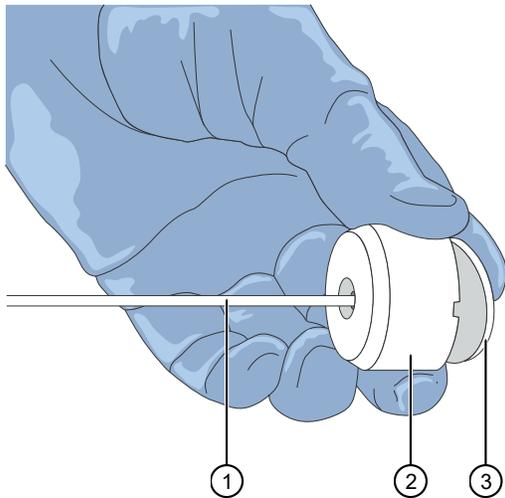

Figure 52 Components of the reagent buffer supply line and filter.
2. Carefully remove the filter from the end of the filter body (see Figure 52).